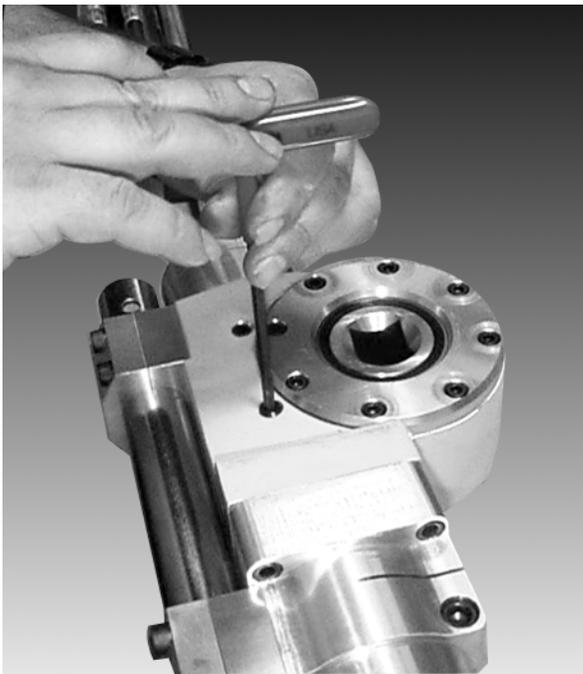

Figure 6-1. Removing the filler and vent plugs.
1. Lay the WAVE™ handheld system upside down, as shown in Figure 6-1.
2. Using a 3/16" hex wrench, remove the filler plug and vent hole plug, as shown in Figure 6-1.